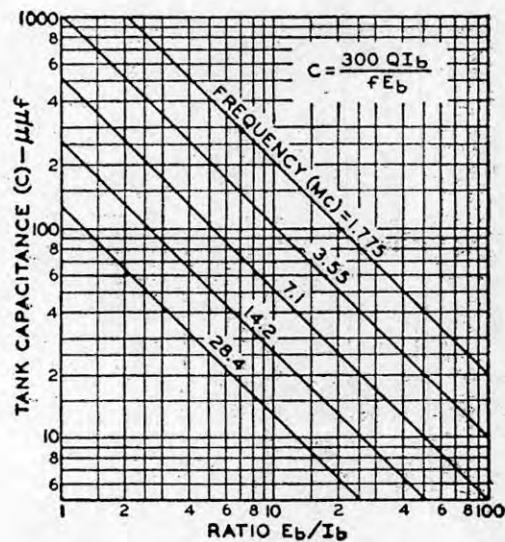
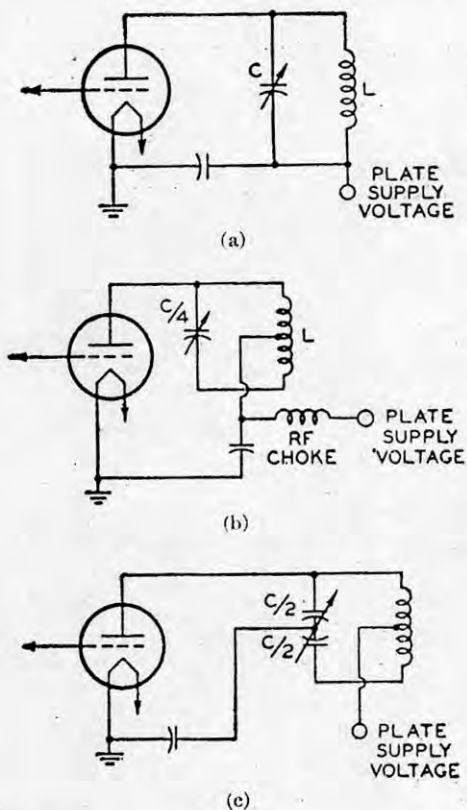

Fig. 35
Fig. 36
Fig. 35 shows C as a function of the ratio E_b/I_b for a Q value of 12. The curves in Fig. 35 can be used to determine values of tank-circuit capacitance suitable for use in equipment operating in the amateur bands. Values of C obtained from this chart or calculated by the use of Equation (4) apply only for single-ended tank circuits which are not split for neutralization or other purposes, such as that shown in Fig. 36 (a). These values represent the total capacitance required for resonance at the corresponding frequencies, and include tube and stray circuit capacitance. Values slightly higher than those indicated can generally be used without appreciable reduction of power output.
When a split tank circuit is employed for a single-ended stage, as shown in Fig. 36 (b), the total tank capacitance should be one-fourth that indicated by Fig. 35 or Equation (4). The corresponding tank inductance, therefore, is 4 times
that required for a tank circuit which is not split. If the tank tuning capacitor is a split-stator type, such as that shown in Fig. 36 (c), each section should have one-half the capacitance indicated by Fig. 35 or Equation (4).
A push-pull stage operating at the same dc plate voltage and total dc plate current as a single-ended stage also requires one-fourth the tank-circuit capacitance indicated in Fig. 35 or Equation (4), or if the tuning capacitor is a split-stator type, each section should have one-half the capacitance indicated. A push-pull stage operated at the same plate voltage but drawing twice as much plate current as a single-ended stage requires one-half the tank-circuit capacitance indicated. In this case, each section of a split-stator tank capacitor should have the capacitance indicated in Fig. 35 and in Equation (4).